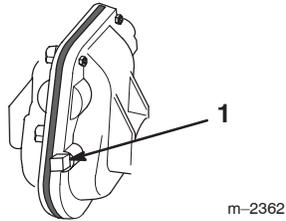

Figure 8
1. With the snowthrower lowered and on a level surface, remove the pipe plug from the auger gear box (Fig. 8) by placing the open end of a 3/8 in. drive socket extension over the plug and using a 3/8 in. open end wrench on the square end of the extension.